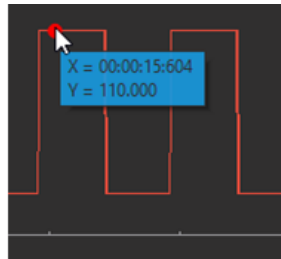

Figure 13.40: Acquisition View - Instant values
- The **Instant values** box can be activated by double-clicking the **Input graph** box and selecting **Show instant values** (Fig. 13.40). This box shows the current value detected by the console for each trace on the selected channel. This box cannot be activated on **Preview graphs**. To remove instantaneous value, double click on the dot.